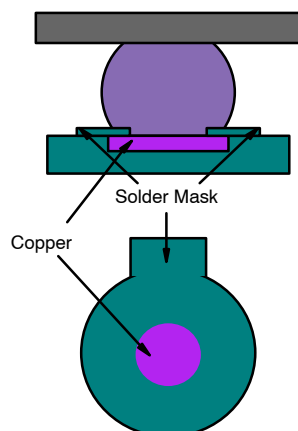
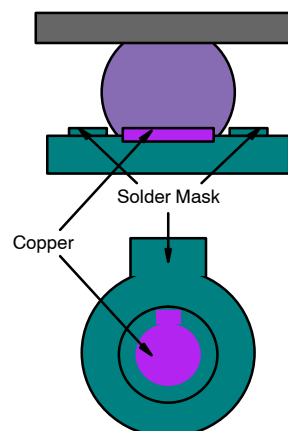

FIGURE 3. SMD
FIGURE 4. NSMD
**Land patterns.** Two types of land patterns are used for surface-mount packages. Solder mask defined (SMD) pads have a solder mask opening smaller than the metal pad (Figure 3), whereas on-solder mask defined (NSMD) pads have a metal pad smaller than the solder-mask opening (Figure 4).